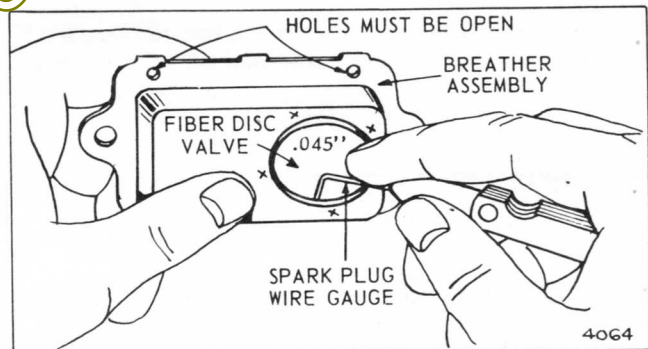

FIGURE 6-3
1. Use a .045" (1.1 mm) feeler gauge to check the space between the disc valve and the breather body. If this space is more than .045" (1.1 mm), replace the breather. Check as shown in figure 6-3.